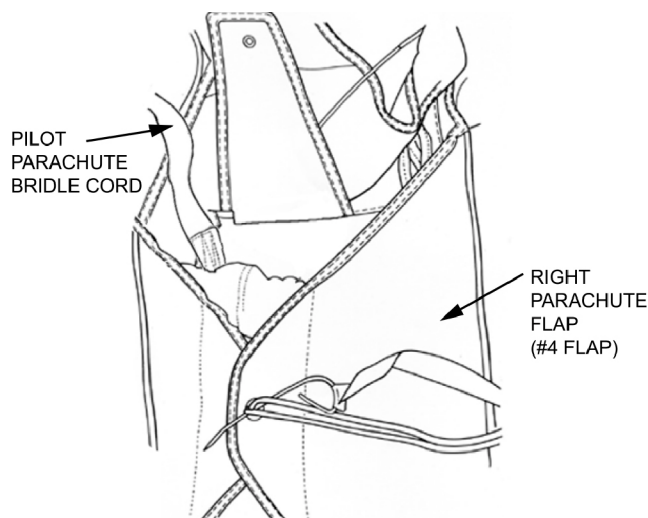

**Figure 12. Close Left Parachute Flap (#3 Flap)**
v. Route pull-up cord from bottom of flap #3, up through grommet, and pull closing loop up. Remove temporary closing pin, and pull closing loop up through grommet. Secure with temporary closing pin (Figure 12).